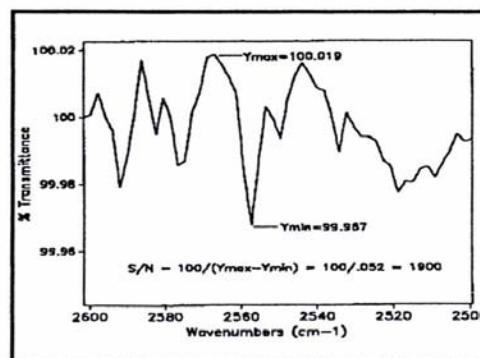

Fig. 6 Calculation of the signal to noise ratio value of the spectrum from Fig. 5
15. 100 divided by the above difference represents the signal-to-noise ratio (see Fig. 6).